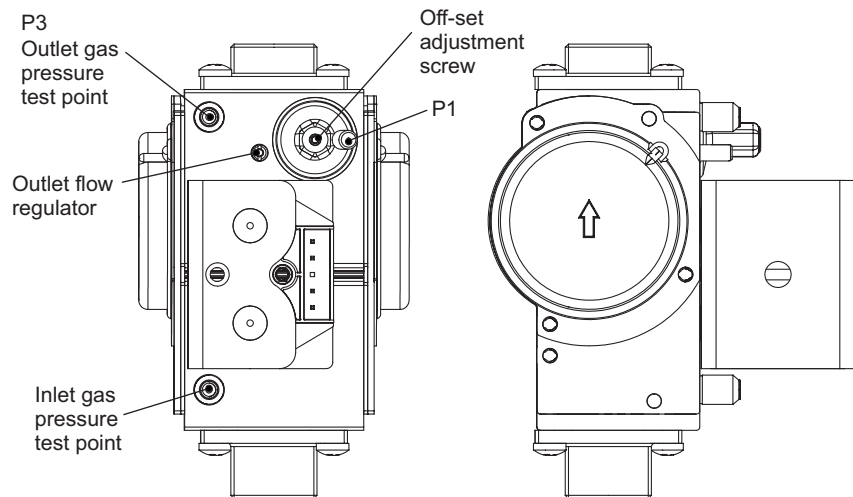

Fig. 21
2. Loosen the gas inlet pressure test point screw on the gas valve (see Fig. 21). Ensure the gas supply is on and open the boiler service cock to purge in accordance with BS 6891.